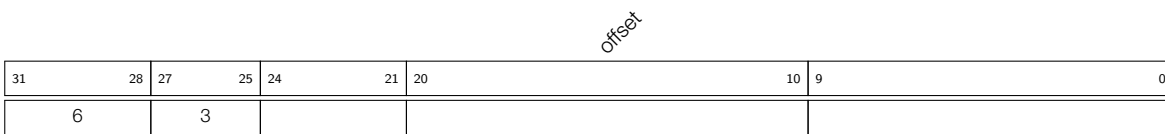

Figure 2-11. Instruction Type - Offset in Automatic Storage Mode (ST-OFFSET)
- Operand Description** - see Figure 2-11